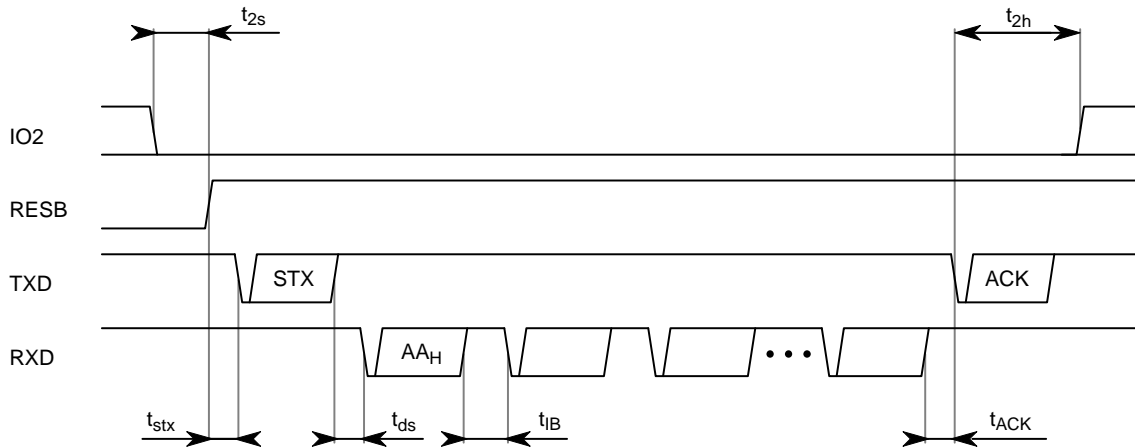

Figure 3. Timing Constraints for Uploading the Firmware over the Serial Communication Interface (SCI)
27. The timing constraints governing the boot loader when uploading firmware over the serial interface are illustrated in Figure 3.